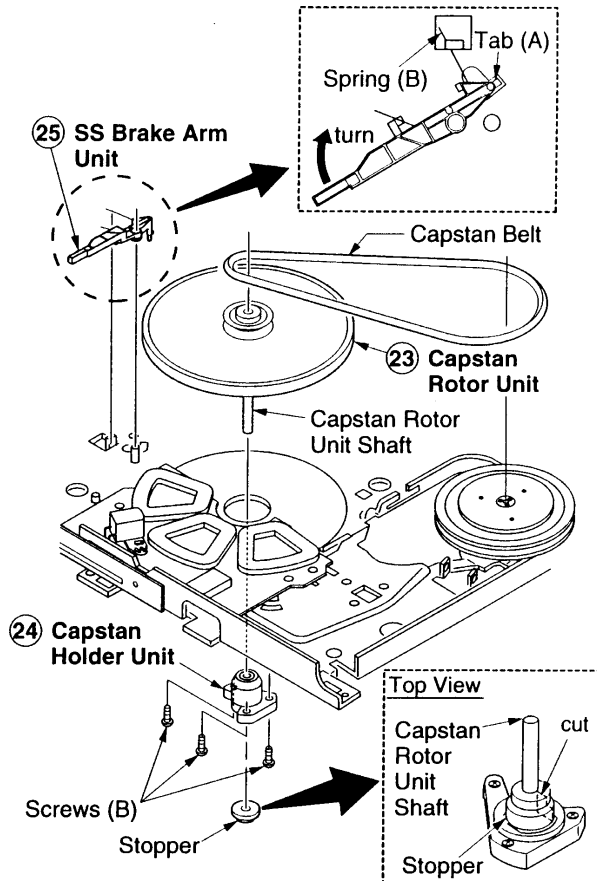
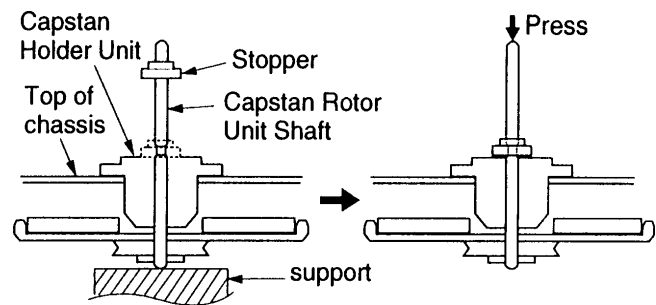

Fig. 17 - Capstan Rotor Unit/Capstan Holder Unit/SS Brake Arm Unit Removal
Fig. 18 - Capstan Rotor Unit/Capstan Holder Unit/SS Brake Arm Unit Removal
**MECHANISM DISASSEMBLY (Continued)****Capstan Rotor Unit/Capstan Holder Unit/SS Brake Arm Unit Removal (Figs. 17, 18)**
3. Pull up on the capstan rotor unit to remove it (Fig. 17).
4. Remove three (3) screws (B) and then remove the capstan holder unit.
5. Unhook spring (B).
6. Turn the SS brake arm unit so that tab (A) lines up with the notch and then remove the SS brake arm unit.
**Note:** When reinstalling, insert the capstan rotor unit shaft into the hole in the capstan holder unit. Place a support under the capstan rotor unit shaft and install the stopper. Take care not to scratch the shaft or the capstan holder unit. Remove the support and press the top end of the shaft down so that the stopper is properly positioned (Fig. 18).